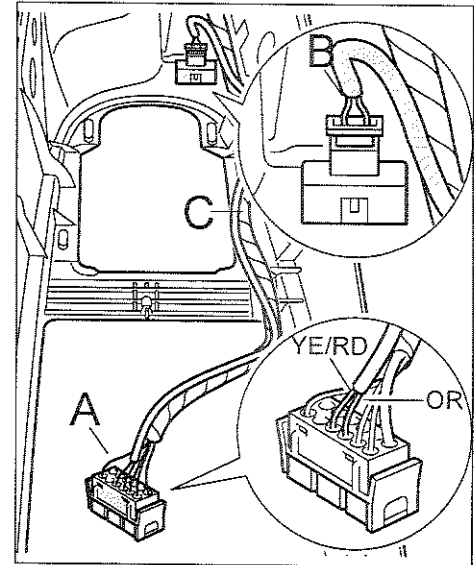

Figure 13
- 5.4.1 Release secondary lock of 12-pin connector for center console connection point ⇒ *Figure 13 -A-*.
- 5.4.4 Route electric wire for the PAO warning light ⇒ *Figure 13 -C-* along the original electric wire harness for the center console and secure it.
- 5.5 Connect electric plug connection for PAO warning light ⇒ *Figure 13 -B-*.